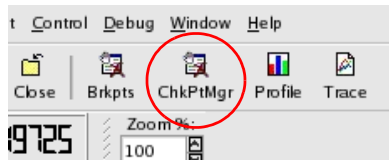

Figure 4-17 Checkpoint Manager button
1. Invoke the Checkpoint Manager by clicking its button in the SoC Designer toolbar, labeled **ChkPtMgr** (Figure 4-17).